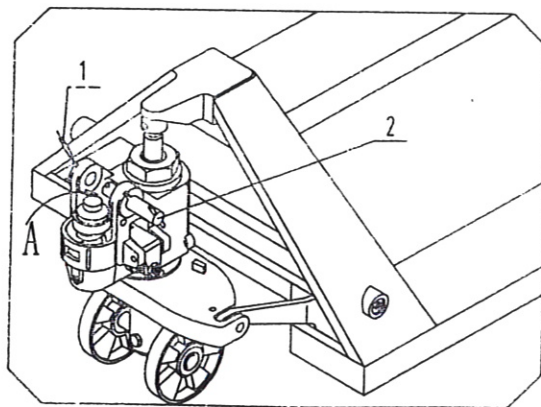

Fig1
3.1 See Fig. 1. Spring Pin (1) is disassembled from Axle Pin (2) before pulling out